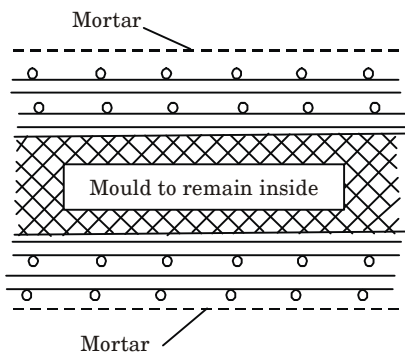

Fig. 5.15.3. Integral mould method.
- i. This method involves a semi-rigid framework, Fig. 5.15.3. An integral mould may be formed using foam material such as polystyrene or polyurethane as the core.